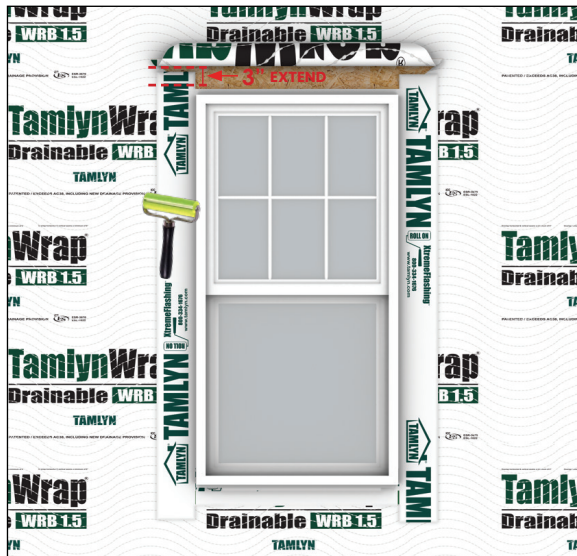

FIG 8:
- Adhere vertical sections with **XtremeFlashing**™ **Tape** over the jamb flanges. Extend vertical flashing approximately 3" above the window head and below sill flashing as shown in **(FIG 8)**